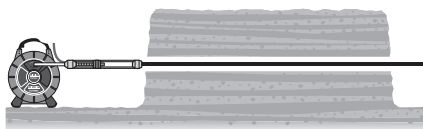

Figure 11 – Connect Air Hose To The CROSSCHEK Inspection System
5. Securely connect the air hose to the adapter on the cone of the CROSSCHEK Inspection System (*Figure 11*). Air hose must have a rotating swivel connection to prevent binding and kinking. Do not twist CROSSCHEK/Pushrod while attaching air hose.